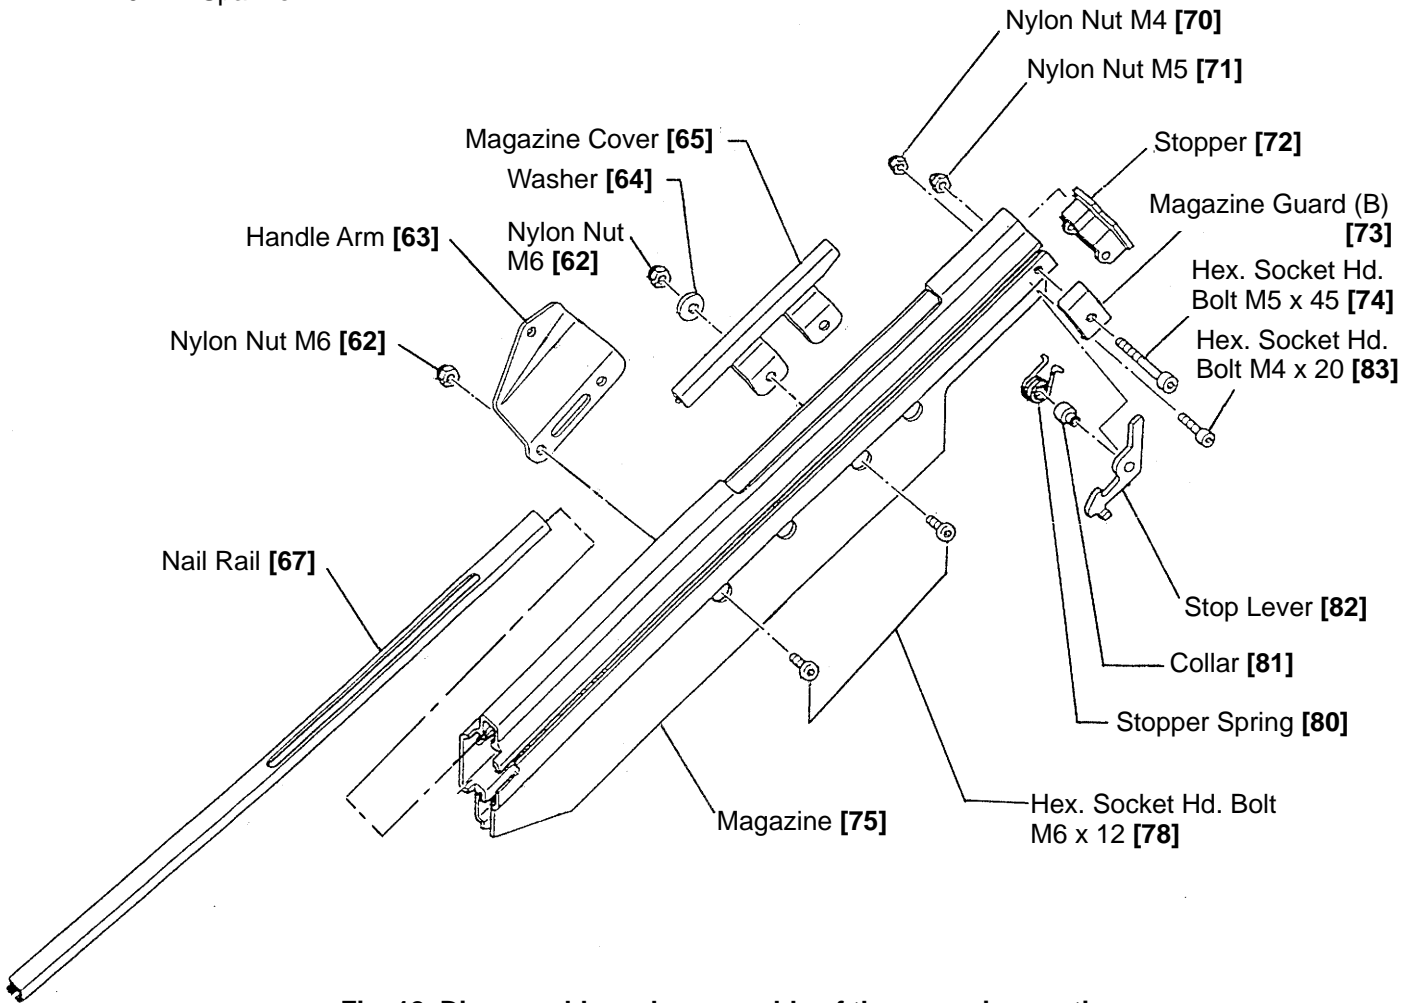

Fig. 12 Disassembly and reassembly of the magazine section
(2) Disassembly and reassembly of the magazine section (See Fig. 12)